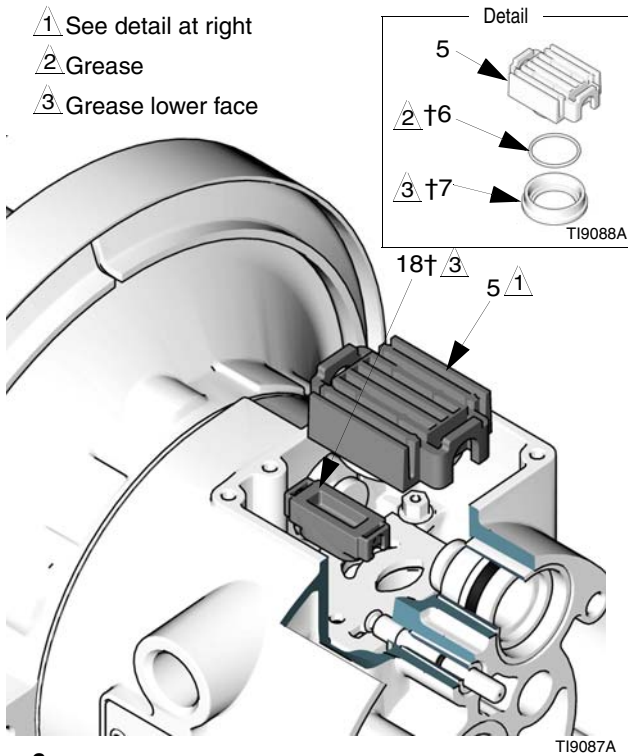

FIG. 6
3. Move the valve carriage (5) to the center position and pull it out of the cavity. Remove the valve block (7) and o-ring (6) from the carriage. Using a needle-nose pliers, pull the pilot block (18) straight up and out of the cavity. See FIG. 6.
6. Grease the lower face of the pilot block (18†) and install so its tabs snap into the grooves on the ends of the pilot pins (16). See FIG. 6.
7. Grease the o-ring (6†) and install it in the valve block (7†). Push the block onto the valve carriage (5). Grease the lower face of the valve block. See FIG. 6.
8. Install the valve carriage (5) so its tabs slip into the grooves on the narrow end of the actuator pistons (11). See FIG. 6.